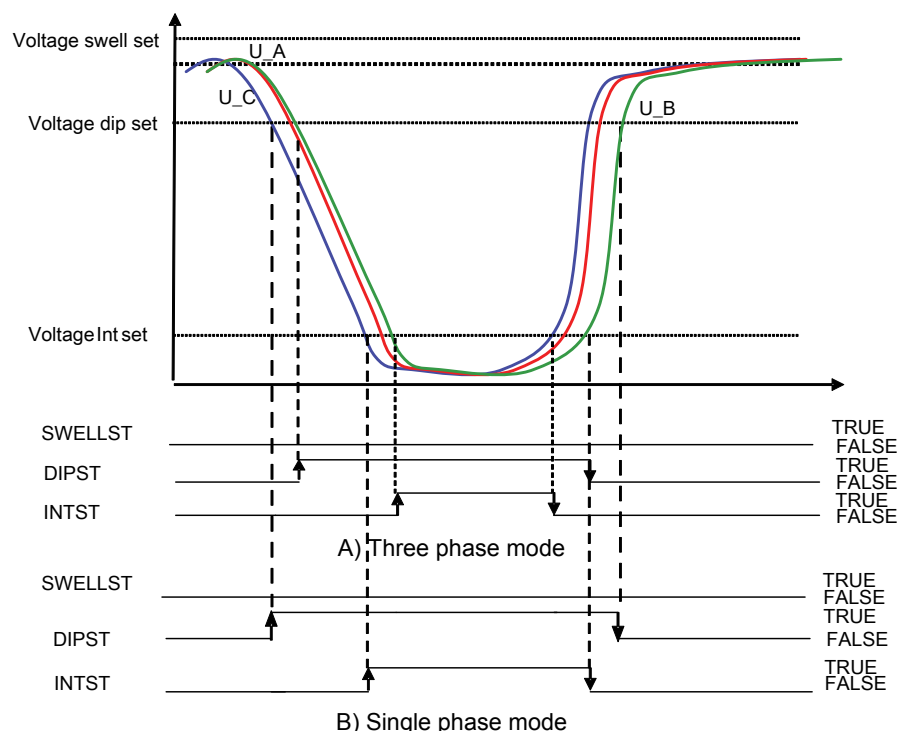
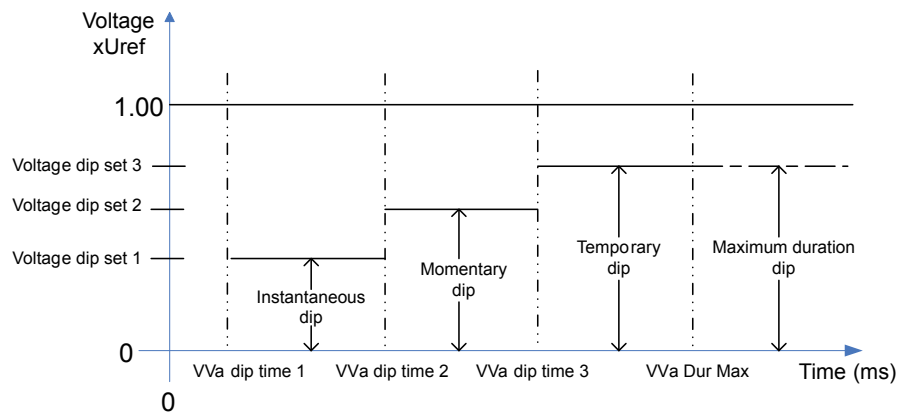

Figure 487: Detection of three-phase voltage interruption
Figure 488: Voltage dip operational regions
*Figure 488* shows voltage dip operational regions. In *Figure 487*, only one voltage dip/swell/Int set is drawn, whereas in this figure there are three sub-limits for the dip operation. When *Voltage dip set 3* is undershot, the corresponding `ST_x` and also the `DIPST` outputs are activated. When the TRMS voltage magnitude remains between *Voltage dip set 2* and *Voltage dip set 1* for a period longer than *VVa dip time 2* (shorter time than *VVa dip time 3*), a momentary dip event is detected. Furthermore, if the signal magnitude stays between the limits longer than *VVa dip time 3* (shorter time than *VVa Dur max*), a temporary dip event is detected. If the voltage remains below *Voltage dip set 1* for a period longer than *VVa dip time 1* but a shorter time than *VVa dip time 2*, an instantaneous dip event is detected.
The provided rules always apply for single-phase (*Phase Mode* is "Single Phase") power systems. However, for three-phase power systems (where *Phase Mode* is "Three Phase"), it is required that all the phases have to be activated before the activation of the *START* output. Interruption event indication requires all three phases to undershoot *Voltage Int set* simultaneously, as shown in Figure 487. When the requirement for interruption for "Three Phase" is no longer fulfilled, variation is indicated as a dip as long as all phases are active.